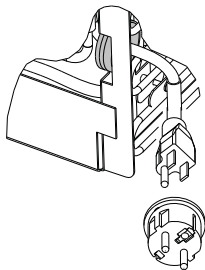

Figure 4: Remove adapter from power cord
- a. **230 VAC Models Only** – Remove the AC Plug adapter from the end of the power cord by first cutting away the plastic heat shrink tubing. Pull the adapter off, leaving just the North American 115 VAC plug (Figure 4).